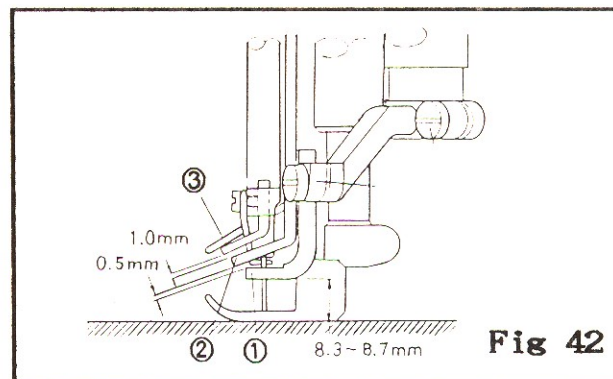

Fig 42
1.When the Needle Bar is in its lowest position, the Thread Guide (2) should be set just below the eye of the guide (3). And the clearance between Thread Guide (2) and the Spreader (1) should be set to 0.5mm. (Fig 42)
2.When the Needle Bar moves to its lowest position, the clearance should be 1.0mm between the Spreader Thread Guide (2) and the Needle Thread Guide (3). The concavity of the Spreader and the thread eye should face each other. (Fig 42)